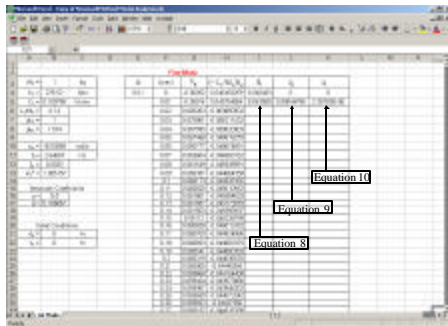

Figure 5: Spreadsheet with values for the Relative Acceleration, Relative Velocity, and Relative Displacement at Time Step 1
Step 5 – Compute Incremental Values of the Relative Acceleration, Relative Velocity, Relative Displacement, and Absolute Acceleration At Each Time Step (Fig. 5)